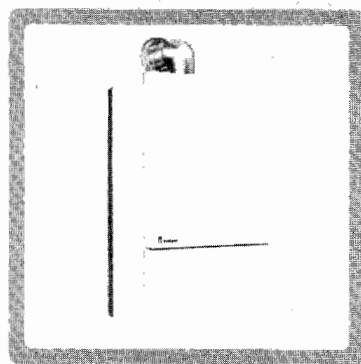

Fig. 33
The first lighting of the appliance shall be done by a qualified fitter only. He shall also give clear verbal instructions to the user on how to operate the boiler, controls and systems generally as described separately in the "Instructions for use" (Fig. 33). Turn on gas service cock. Ensure electrical supply is on. Ensure external controls are calling for heat. Light the boiler by pushing main switch into position 1 (ON) (24, Fig.1).